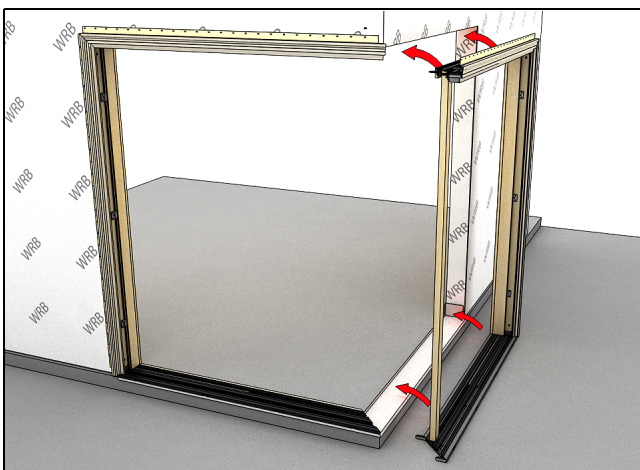

Figure 12
14. Stand the frame upright in front of the rough opening. See Figure 12.